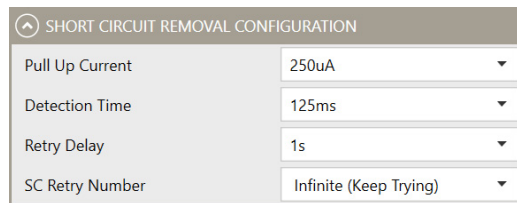

Figure 18: Short-Circuit Removal Configurations
20. Figure 18 shows how to configure the short-circuit removal parameters.